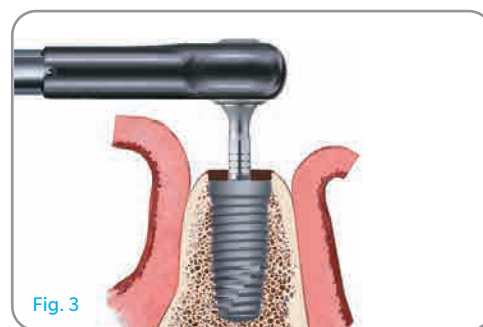

Fig. 3
Step 3: When placing the implant, the implant platform should reach the same position that the NTDI platform previously attained. If the implant platform is positioned higher in relation to the crest of the bone than the platform of the NTDI previously demonstrated, or if the surgical motor stalls prior to full placement of the implant due to insufficient torque, then hand ratcheting is recommended to achieve the proper final implant seating position [Fig. 3].